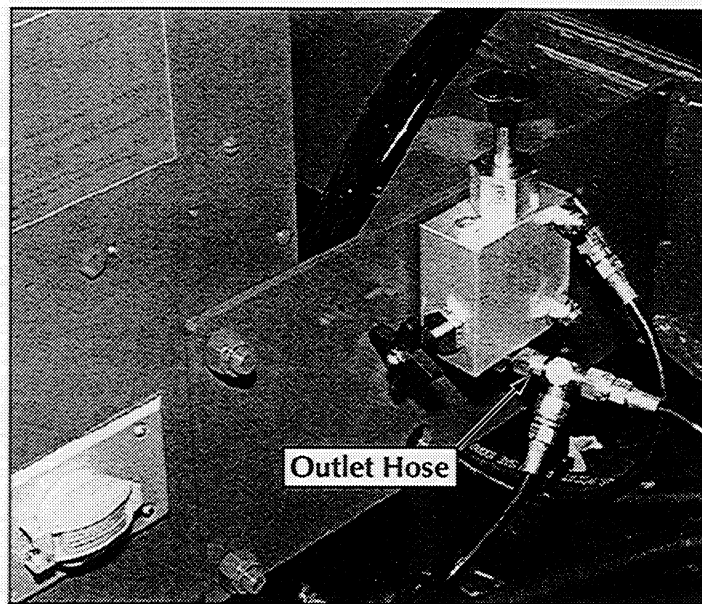

Figure 4-6: Brake Release Pump
2. Remove the outlet hose from the bottom of the brake release pump (Figure 4-6) and install a 0-600 psi (0-50 bar) gauge assembly in-line with a tee fitting.